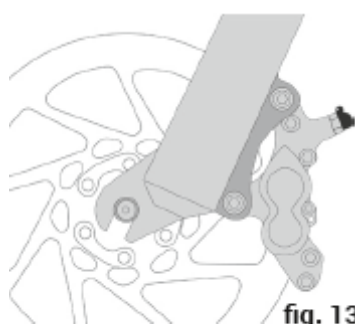

fig. 13
3. Disc brakes (fig. 13) are extremely powerful. Take extra care in becoming familiar with these brakes and exercise particular care when using them.